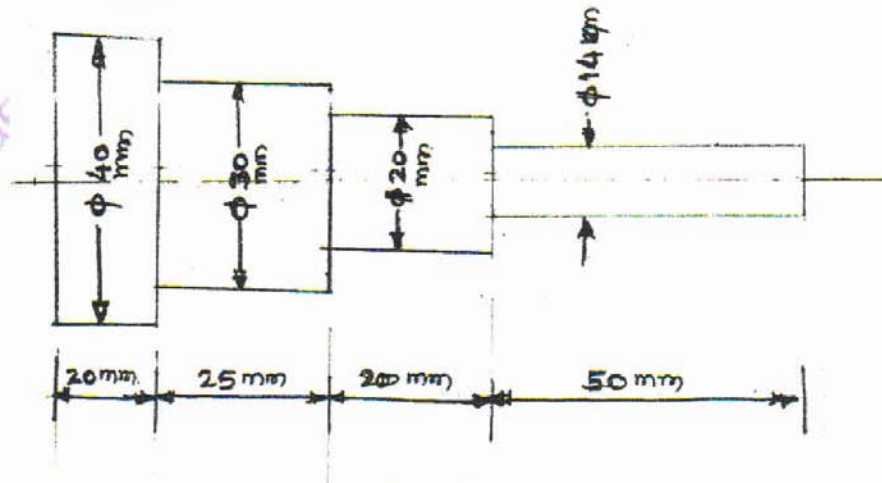

Fig. Q8 (c)
c. Calculate the total cost of cast iron cap shown in fig.Q8(c), an automobile component. Use the following data : Cost of molten metal at cupola spout : Rs 30/kg ;
c. For an automobile component shown in Fig. Q8 (c), determine the cost of forging/piece. Use the following data :